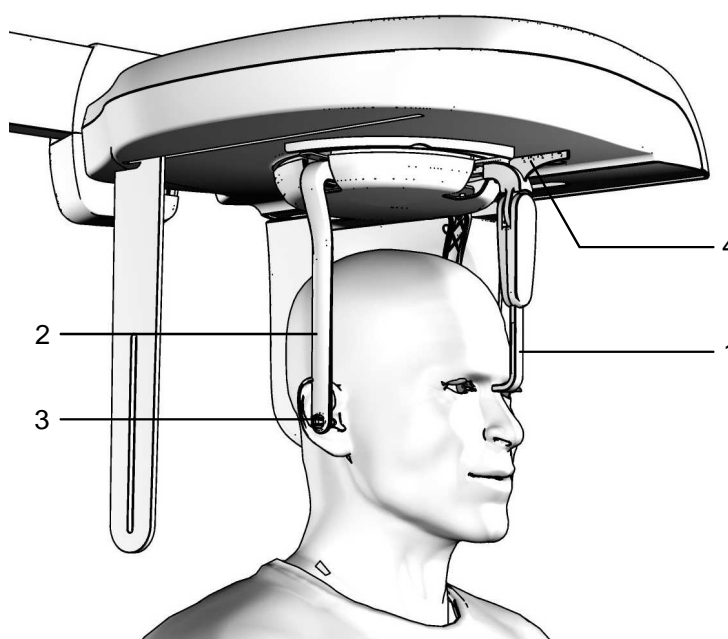

Figure 29
The kV, mA and Soft Tissues Filter values can be changed manually. The parameter "fxx.x" indicates the position of the STF and must be set according to the value on the graduated scale on the nose rest (Figure 29). The value is stored when the modified number is displayed on the second line (about 3 seconds).
3. Open the ear centring device (Figure 29) at maximum by means of the upper part of the centring device's rods. Move the nose rest (Figure 29) fully outwards. Manually rotate the craniostat group according the cephalometric projection to be made, moving the upper part of the ear centring device (Figure 29).
the column until the centring pins (Figure 29) are close of the auricular canal and then secure the patient's head so that the pins penetrate the ear hole (Figure 29) acting on the top of the rods. If a Latero-Lateral examination is performed, position the nose rest.